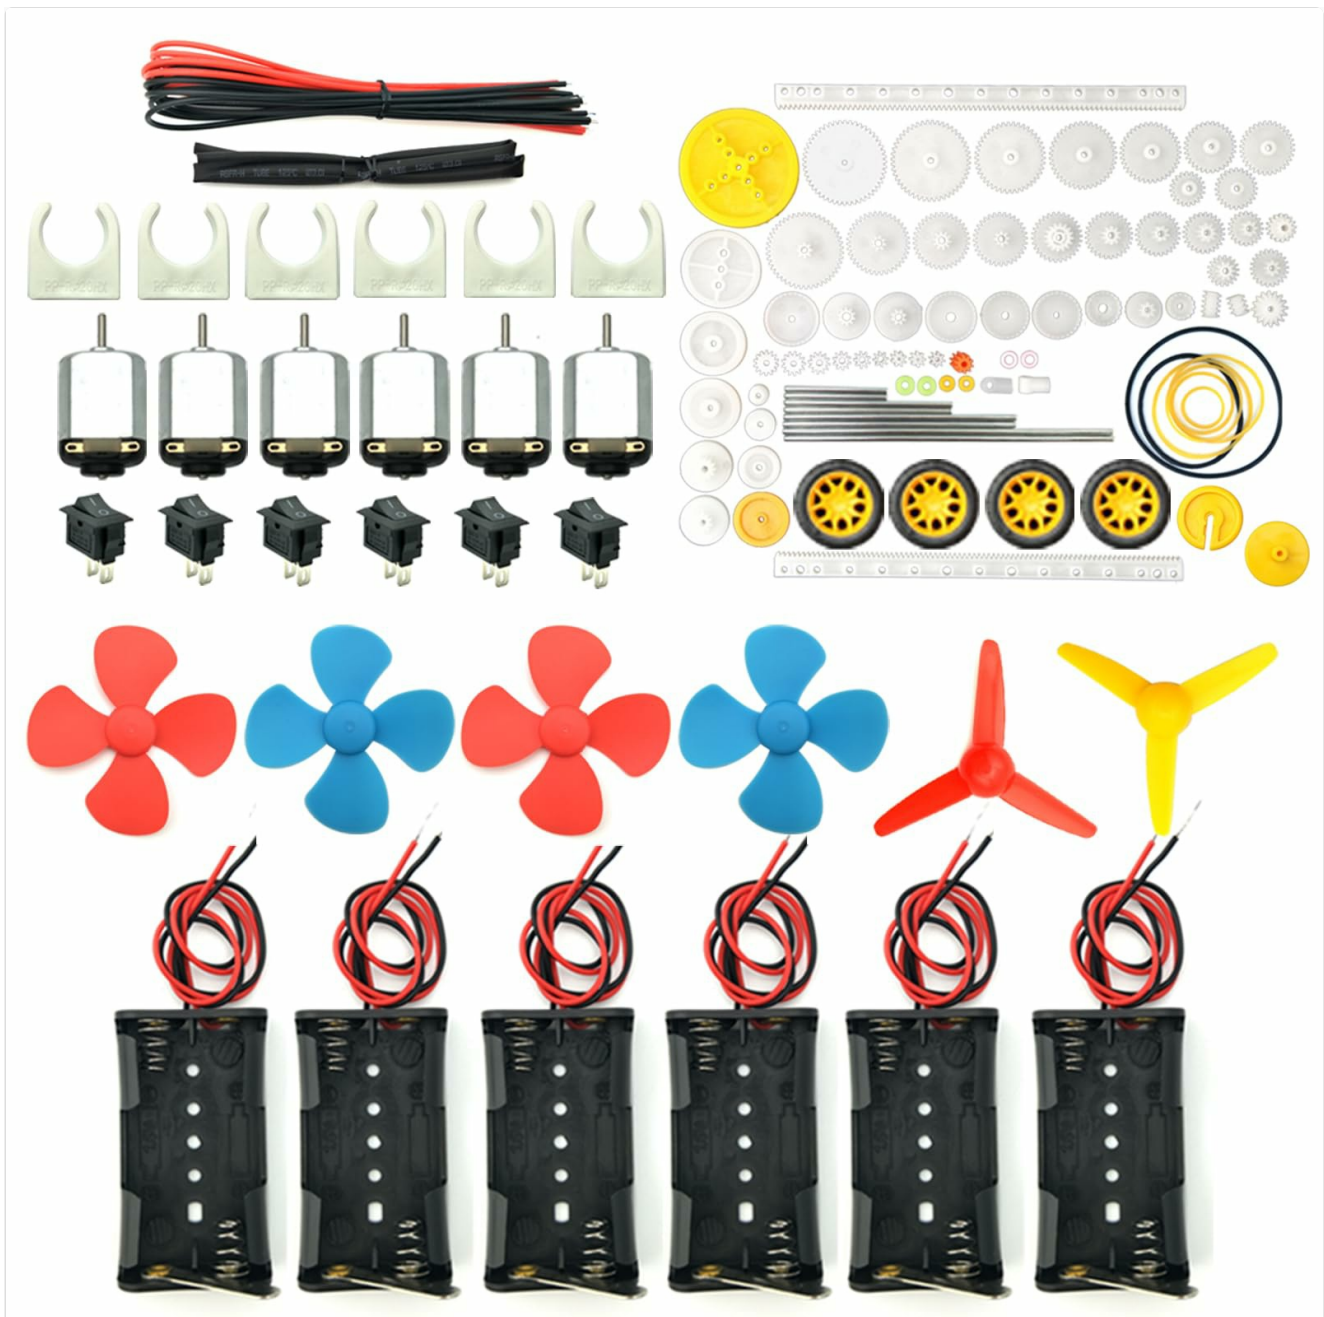

Figure 1: Correct and incorrect circuit diagrams. Always follow the correct circuit to prevent short circuits.
4. **Wiring the Circuit:** Connect the electronic wires to the motor terminals, battery holder, and rocker switch. Refer to the correct circuit diagram (Figure 1) to avoid short circuits. The rocker switch has 2 solder lugs for simple on/off control. Use heat shrink tubing for secure and insulated connections if soldering.